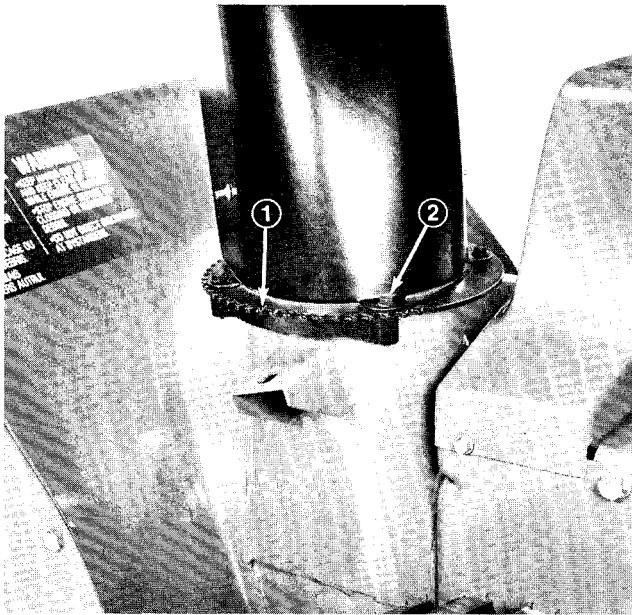

Figure 9
4. Set discharge chute — open side forward — onto retaining ring and line up mounting holes. Next, secure discharge chute, retaining ring, and plastic retainers together with three self tapping screws (Fig. 9).